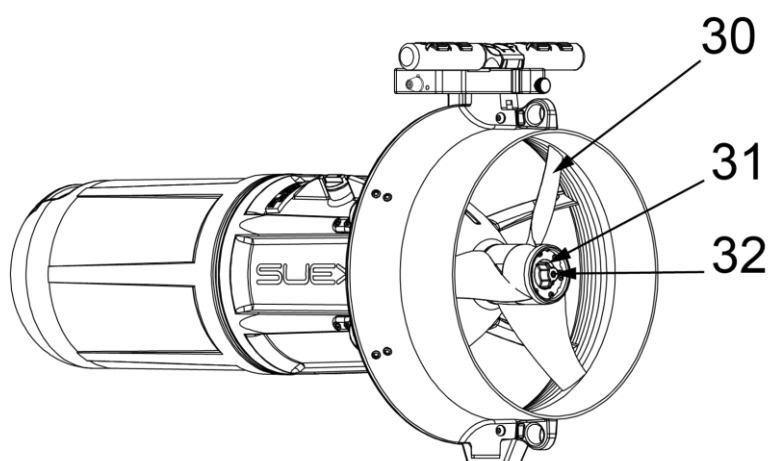

Fig 33 - Propeller extraction
Grasp the propeller by a blade (30 -Fig 33 - on p. 39) and unscrew the knob (31), turning anticlockwise until the propeller is completely extracted.